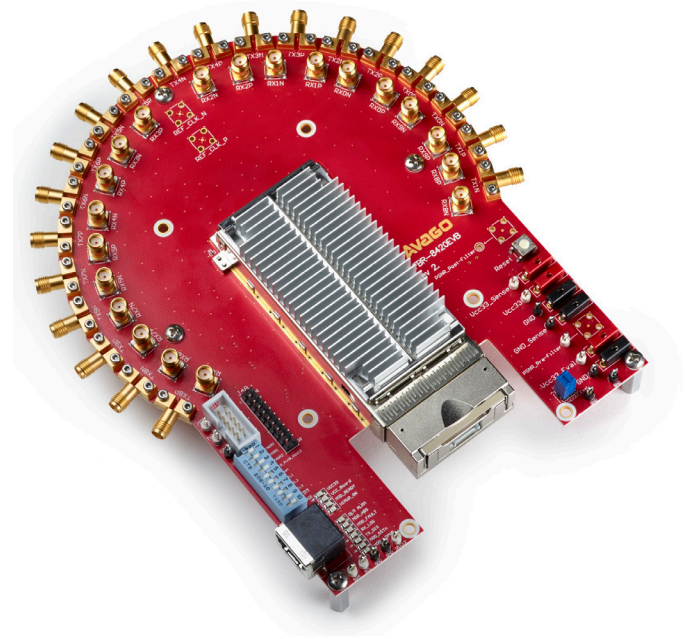

Figure 1. AFBR-8420EVB, CFP2 Evaluation board
1. 1x AFBR-8420EVB, CFP2 evaluation printed circuit board (Figure 1)